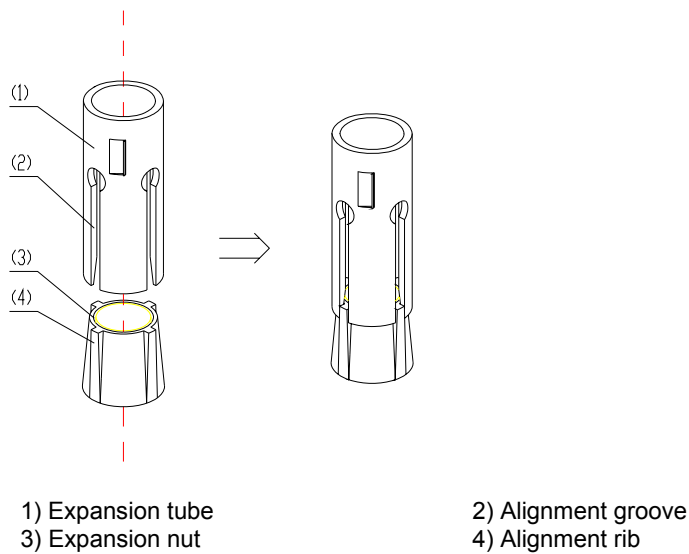

Figure 8-9 Install an expansion nut onto an expansion tube
- 4) Figure 8-9 illustrates how to install an expansion nut to an expansion tube.